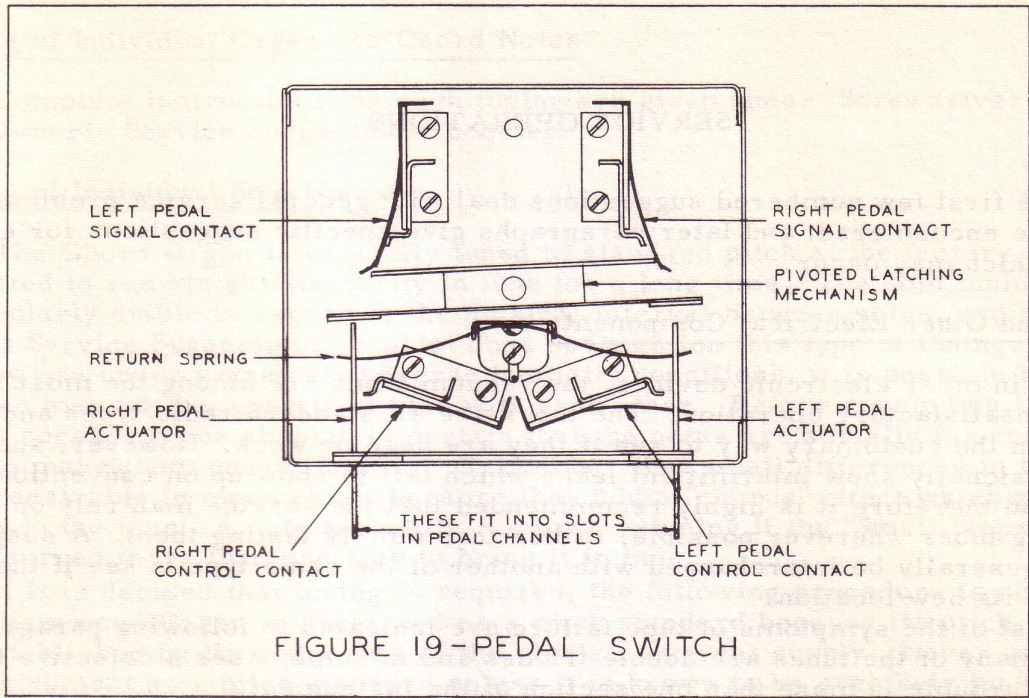

FIGURE 19 - PEDAL SWITCH
The two bass pedals are attached to the underside of the wood case, and bakelite strips extending through the case bottom operate contact springs in the pedal switch. Figure 19 shows details of the pedal switch.
29. One pedal fails to play with any chords. If the other pedal plays correctly, the oscillators, pedal control tube, and frequency dividers must be working. The signal contact or control contact in the pedal switch is probably dirty and can be cleaned in the same manner as the control tablet contacts (paragraph 3). See figure 19 for positions of contacts.